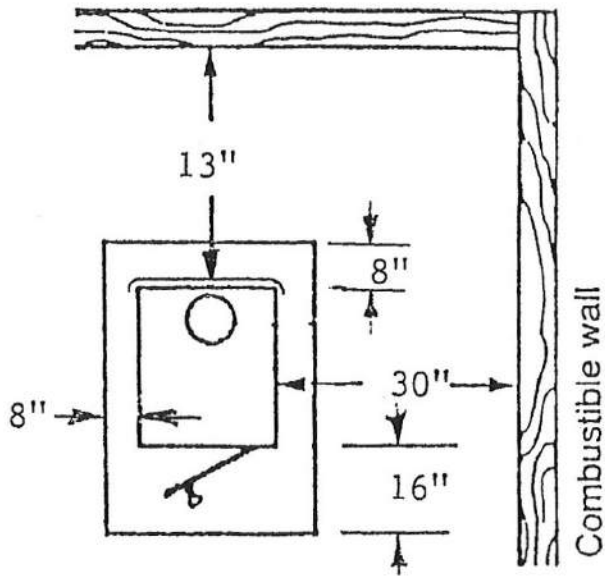

FIGURE 3
5. Floor protector must extend 8" from sides and rear and 16" from door of stove. (See figure 3)